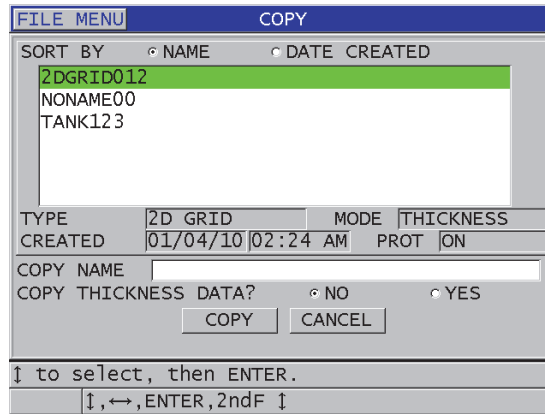

Figure 11-17 Copying a file
3. In the **COPY** screen (see Figure 11-17 on page 206):